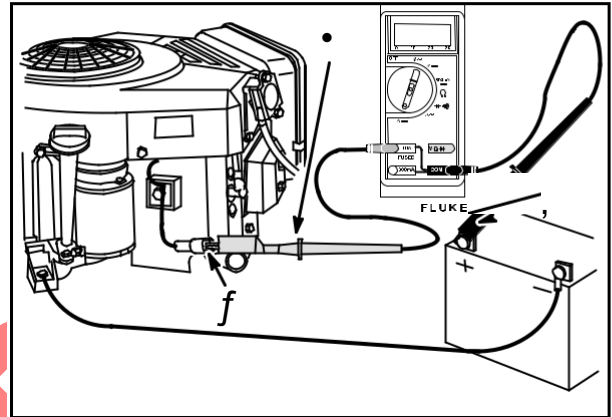

Fig. 25
Attach RED test lead clip (1) to RED DC output terminal (3) on regulator-rectifier, **Fig. 25**.